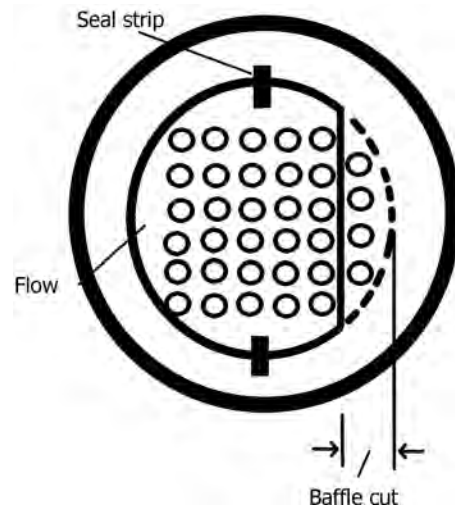

FIGURE 10.29 Seal strips reduce bypassing around tube bundle.
- Figure 10.29 illustrates use of seal strips.